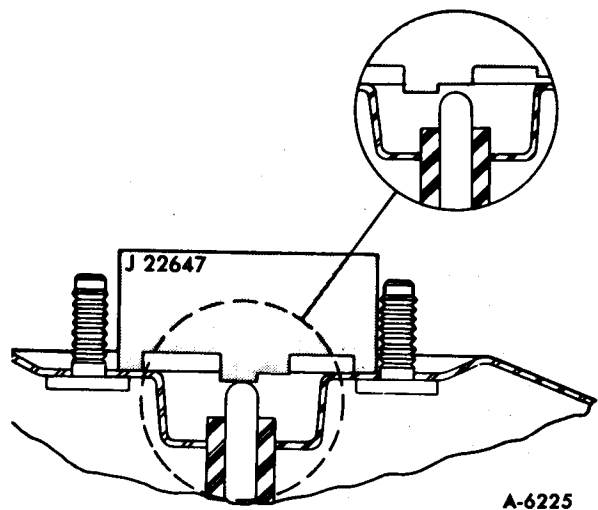

Figure 22—Gauging Piston Rod
12. Place gauge J-22647 over the piston rod in a position which will allow the gauge to be moved to the left or right without contacting the studs (see figure 22).